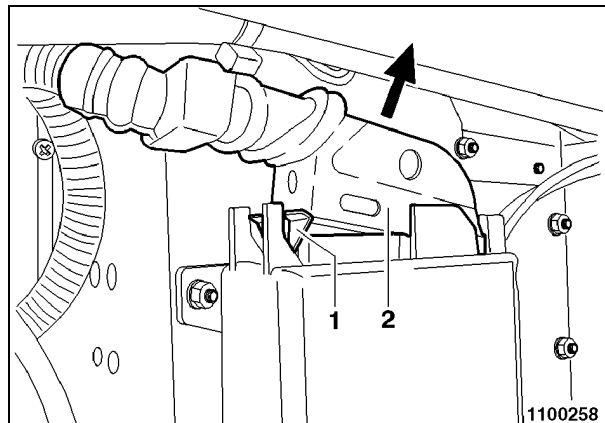

Fig. 2
- Push arresting lever (1, Fig. 2) away from plug and withdraw plug (2) of PCS unit upwards. At the front of the plug is an extension (nose) that has to be disengaged in this process.